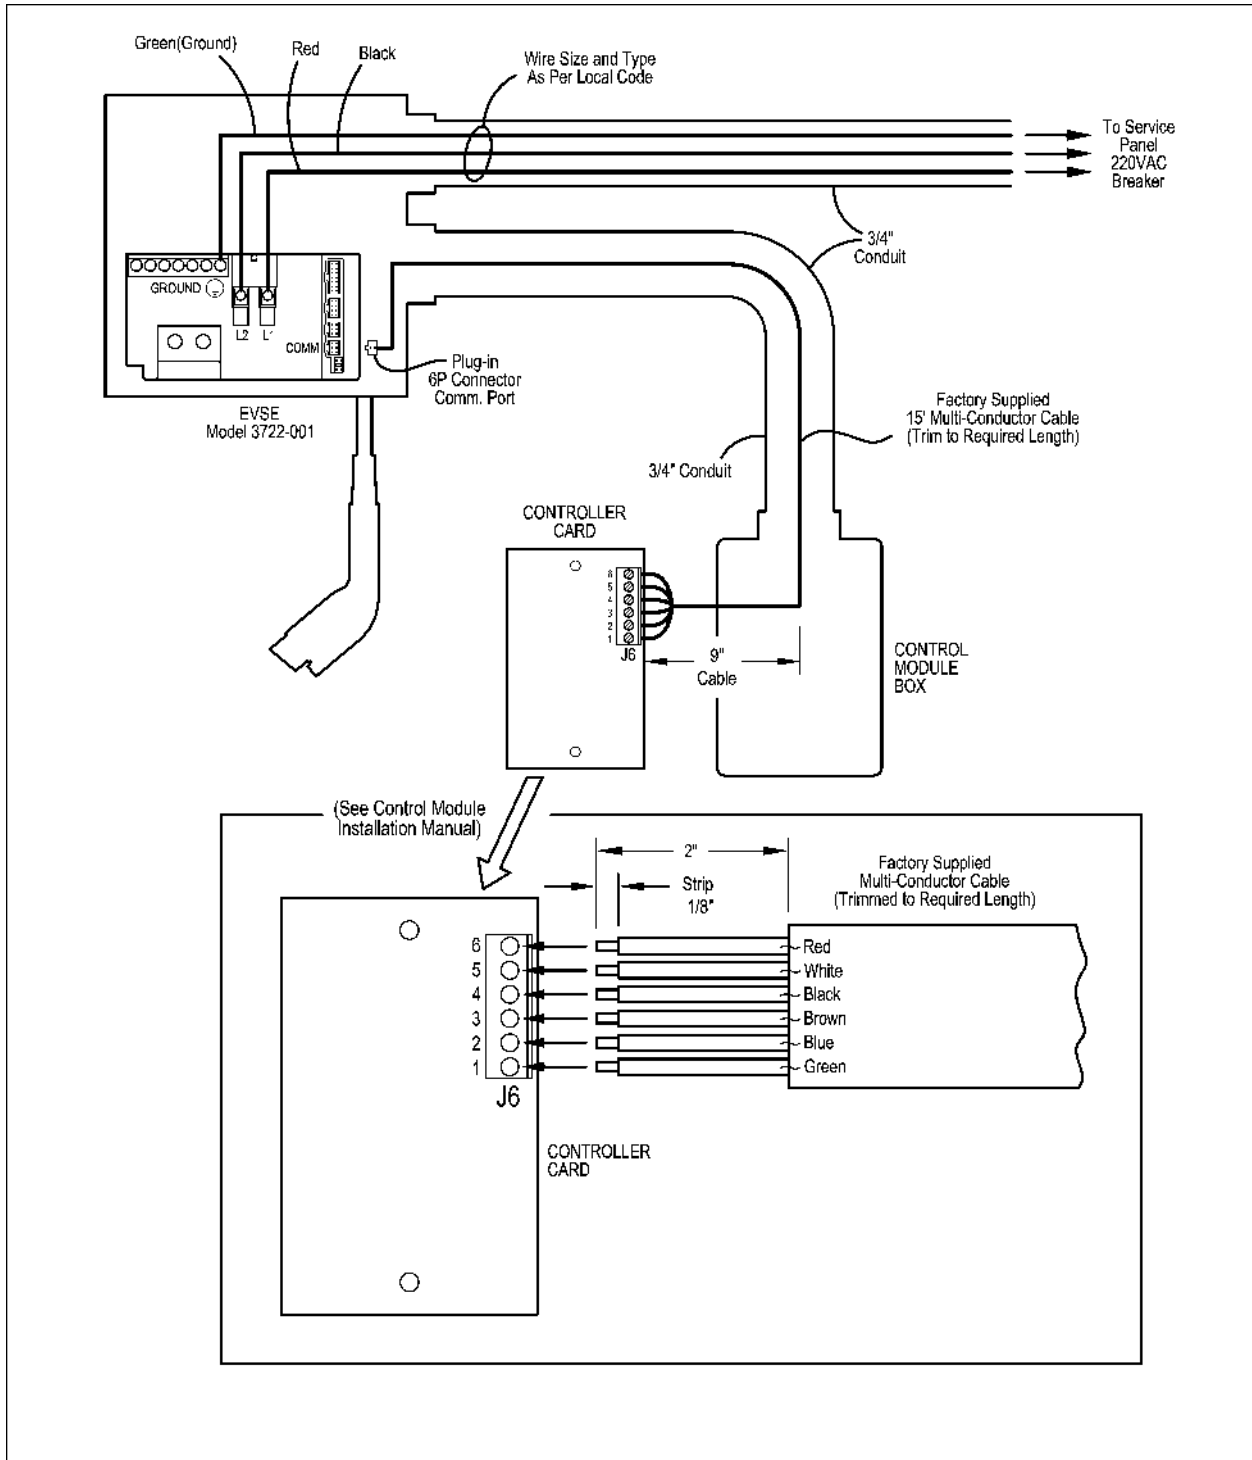
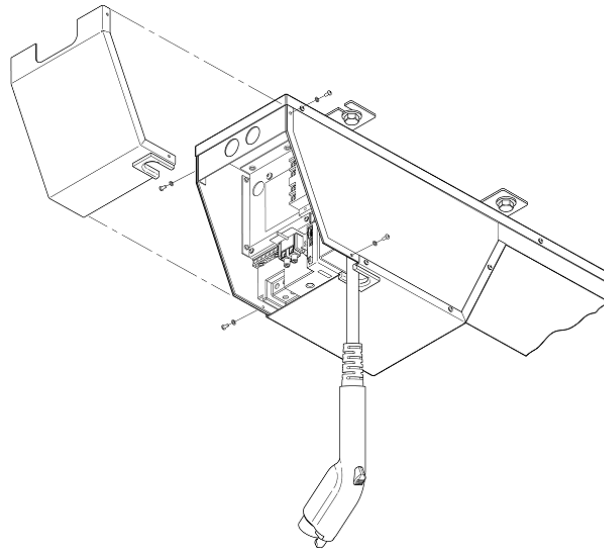

Figure 9*
Figure 12
5. Locate the factory-supplied multi-conductor cable and plug it into the 6-pin COMM port on the EVSE (**Figure 9**).
9. Locate the Control Module control card and attach the wires to the communication terminal block (**Figure 9**).
To make final power terminations to the EVSE, you will need to attach the red, black and green power wires originating from a 40A breaker within the service panel (**Figure 9**). Using **Figure 12** as a guide, remove the EVSE's service cover. Locate the **AC LINE IN** power connector, and make sure the two screws are backed off to raise the internal wire pressure plate. Strip 3/8" insulation off the red wire and insert it into the **L1** opening on the AC LINE IN connector. Tighten the screw to 18 ½ **inch** pounds to secure the wire. Strip 3/8" insulation off the black wire and insert it into the **L2** opening on the **AC LINE IN** connector. Tighten the screw to 18 ½ **inch** pounds to secure the wire. Strip 3/8" insulation off the green wire and insert it under one of the ground screws on the **GROUND** bar. Tighten the screw to 25 **inch** pounds to secure the wire. Complete the **Installation Notes** section of this manual and retain for future reference. Re-install the service cover.